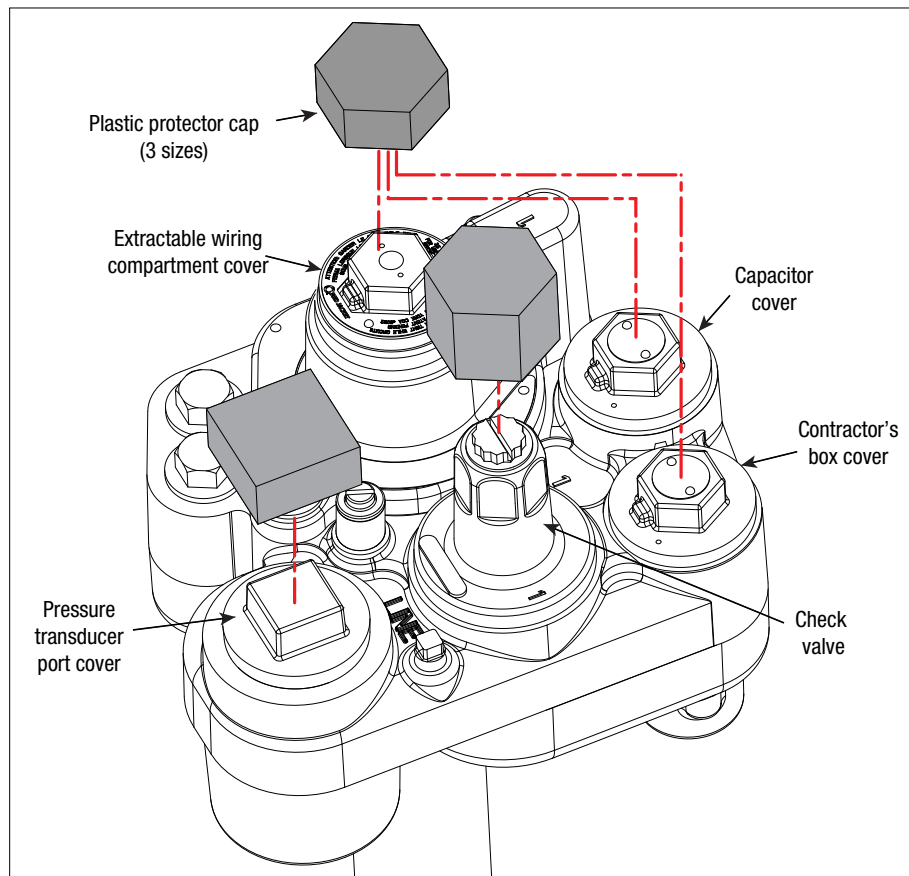

Figure 14. Plastic Protectors Covers for All Models with the 'RA' Suffix
18. For all models with the 'RA' suffix, place the supplied plastic protector on the packer wiring compartment cover prior to torquing to avoid damaging the powder coating and causing corrosion (see Figure 14).
**NOTICE** For all models with the 'RA' suffix, place the supplied plastic protectors on the access covers prior to torquing to avoid damaging the powder coating and causing corrosion (see Figure 14) .
**For all models with the 'RA' suffix, place the supplied plastic protector on the 2" NPT plug (see Figure 14) prior to torquing to avoid damaging the powder coating and causing corrosion.**